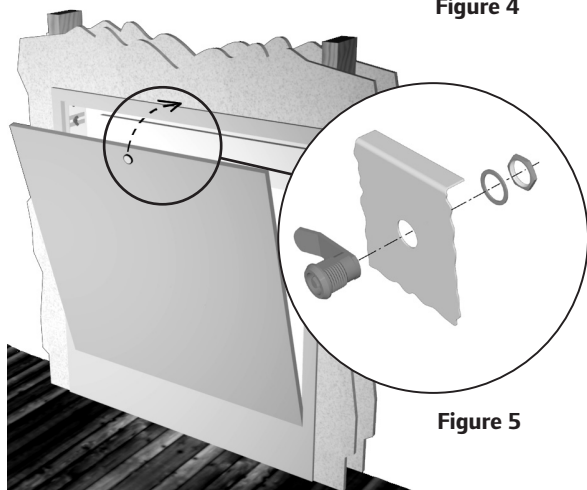

Figure 4
4. Secure by tightening the wing nuts. (See **Figure 4.**)